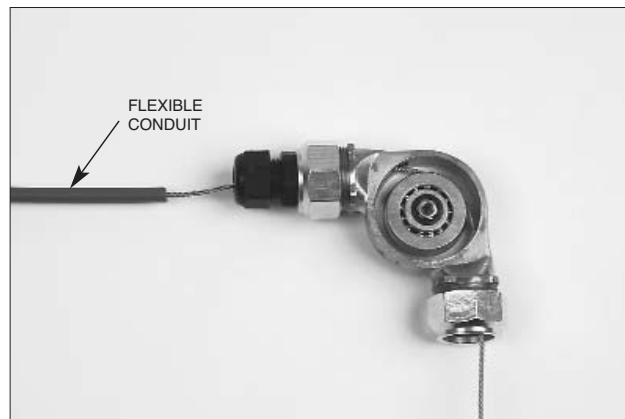

FIGURE 61
6. Push the wire rope into the flexible conduit. See Figure 61.